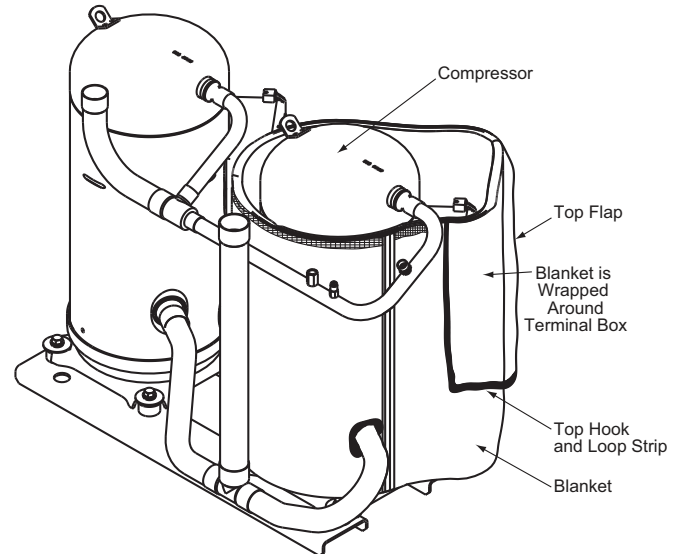

Fig. 5 — Wrap and Secure Sound Blanket Around Compressor and Terminal Box for Single and Tandem Compressors
6. Wrap the blanket around the compressor terminal box. See Fig. 5 for single compressors and tandem compressors
7. Attach the hook and loop seam to secure the blanket to the compressor. See Fig. 5 for single compressors and tandem compressors.